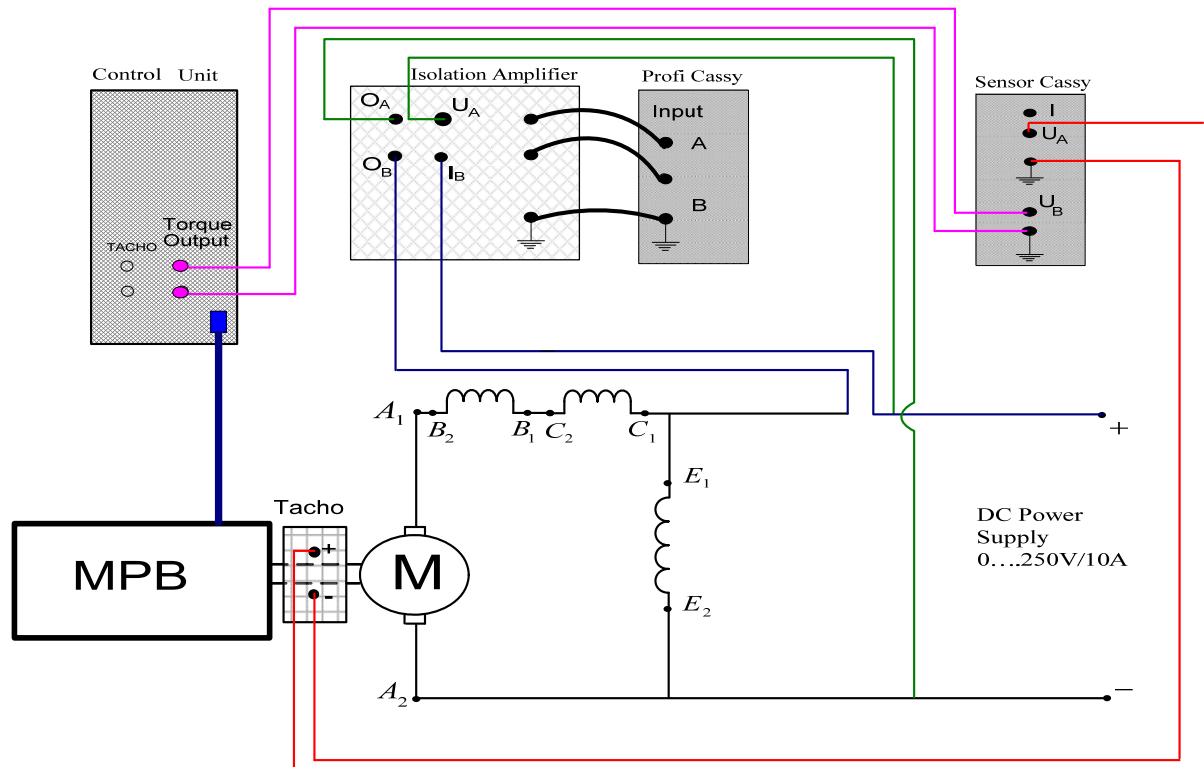

Figure 1: Shunt DC Motor Sep Up
3. Connect the circuit as shown in Figure 1 using Cassy measurement Connection for the indicated armature current, applied voltage, rotor speed and applied torque.